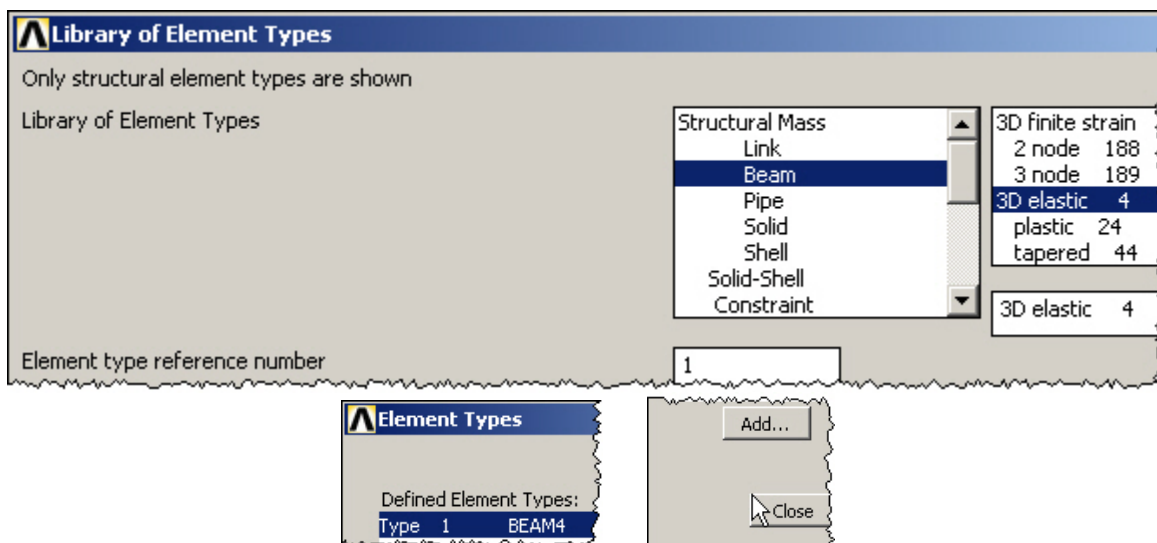

Figure 5 Select space frame element type
4. In **Element Types**, seen in Figure 5, pick **Add**→**Library of Element Types**.